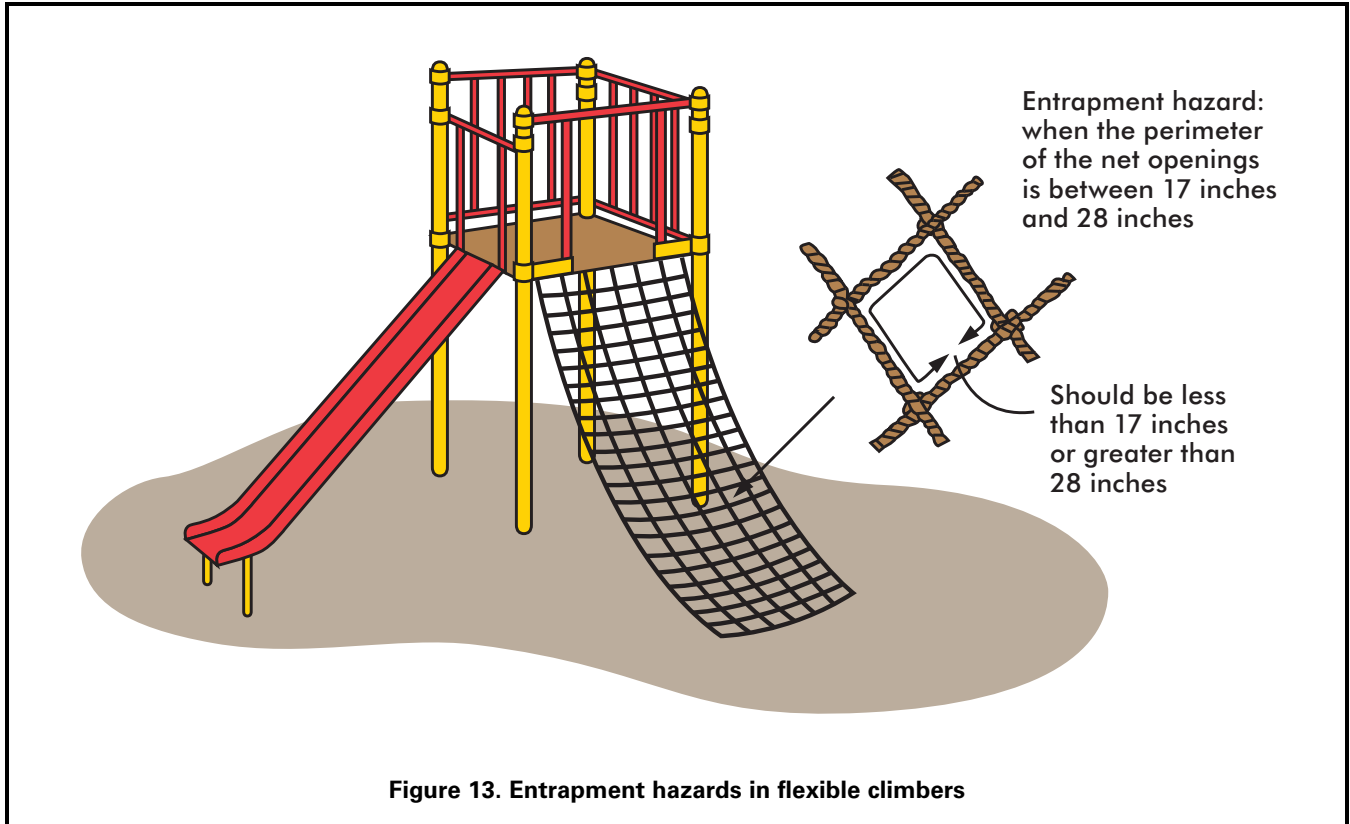

Figure 13. Entrapment hazards in flexible climbers
- The perimeter of any opening in a net structure should be less than 17 inches or greater than 28 inches (see Figure 13).